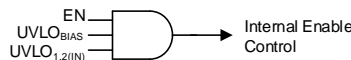

Figure 48. Simplified Turnon Control
Controlling when a single power supply turns on can be difficult in a power distribution network (PDN) because of the high power levels inherent in a PDN, and the variations between all of the supplies. The LDO turnon and turnoff time is set by the enable circuit (EN) and undervoltage lockout circuits (UVLO_{1,2(IN)} and UVLO_{BIAS}), as shown in Figure 48 and Table 2.